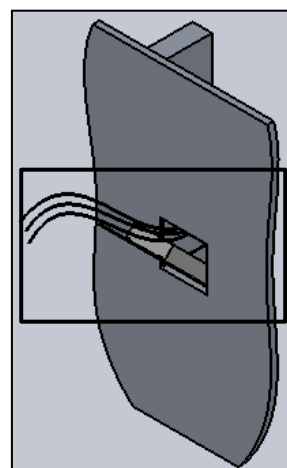

FIG. 17- DRIVER PLATE ASSEMBLY
9. Slide DRIVER PLATE into the box with the driver facing rearward as shown in FIG. 17. As you slide the plate in, make sure you pull the BUILDING SUPPLY connections through the large hole in the DRIVER PLATE and other wires will already be through center hole.